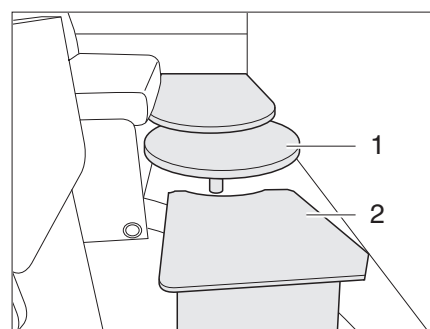

Fig. 36 Bed extension (extra bed)
- Place the bed extension (Fig. 36,2) for the extra bed onto the table-top extension (Fig. 36,1).